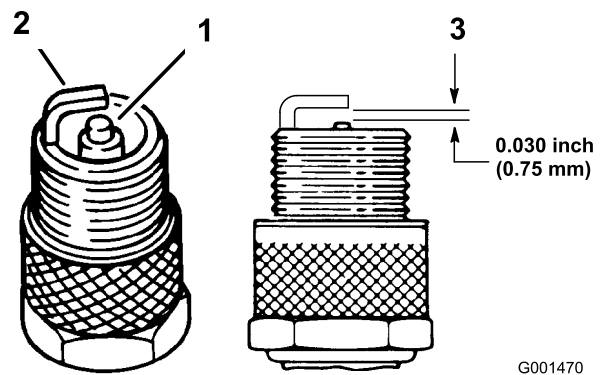

Figure 34
1. Look at the center of the spark plugs (Figure 34). If you see light brown or gray on the insulator, the engine is operating properly. A black coating on the insulator usually means that the air cleaner is dirty.
2. Check the gap between the center and side electrodes (Figure 34). Bend the side electrode (Figure 34) if the gap is not correct.